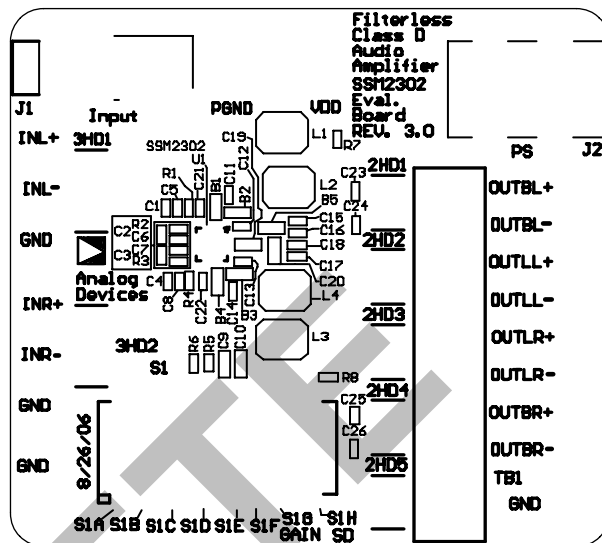
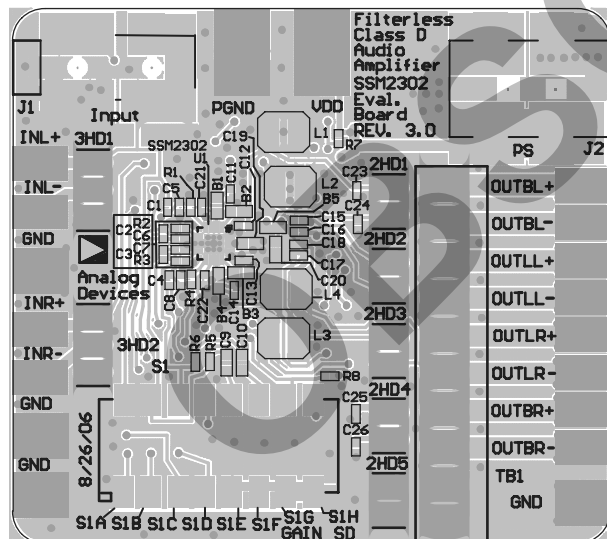
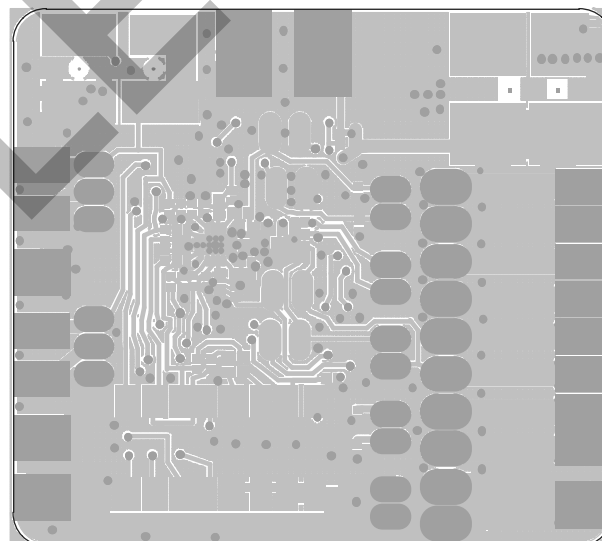
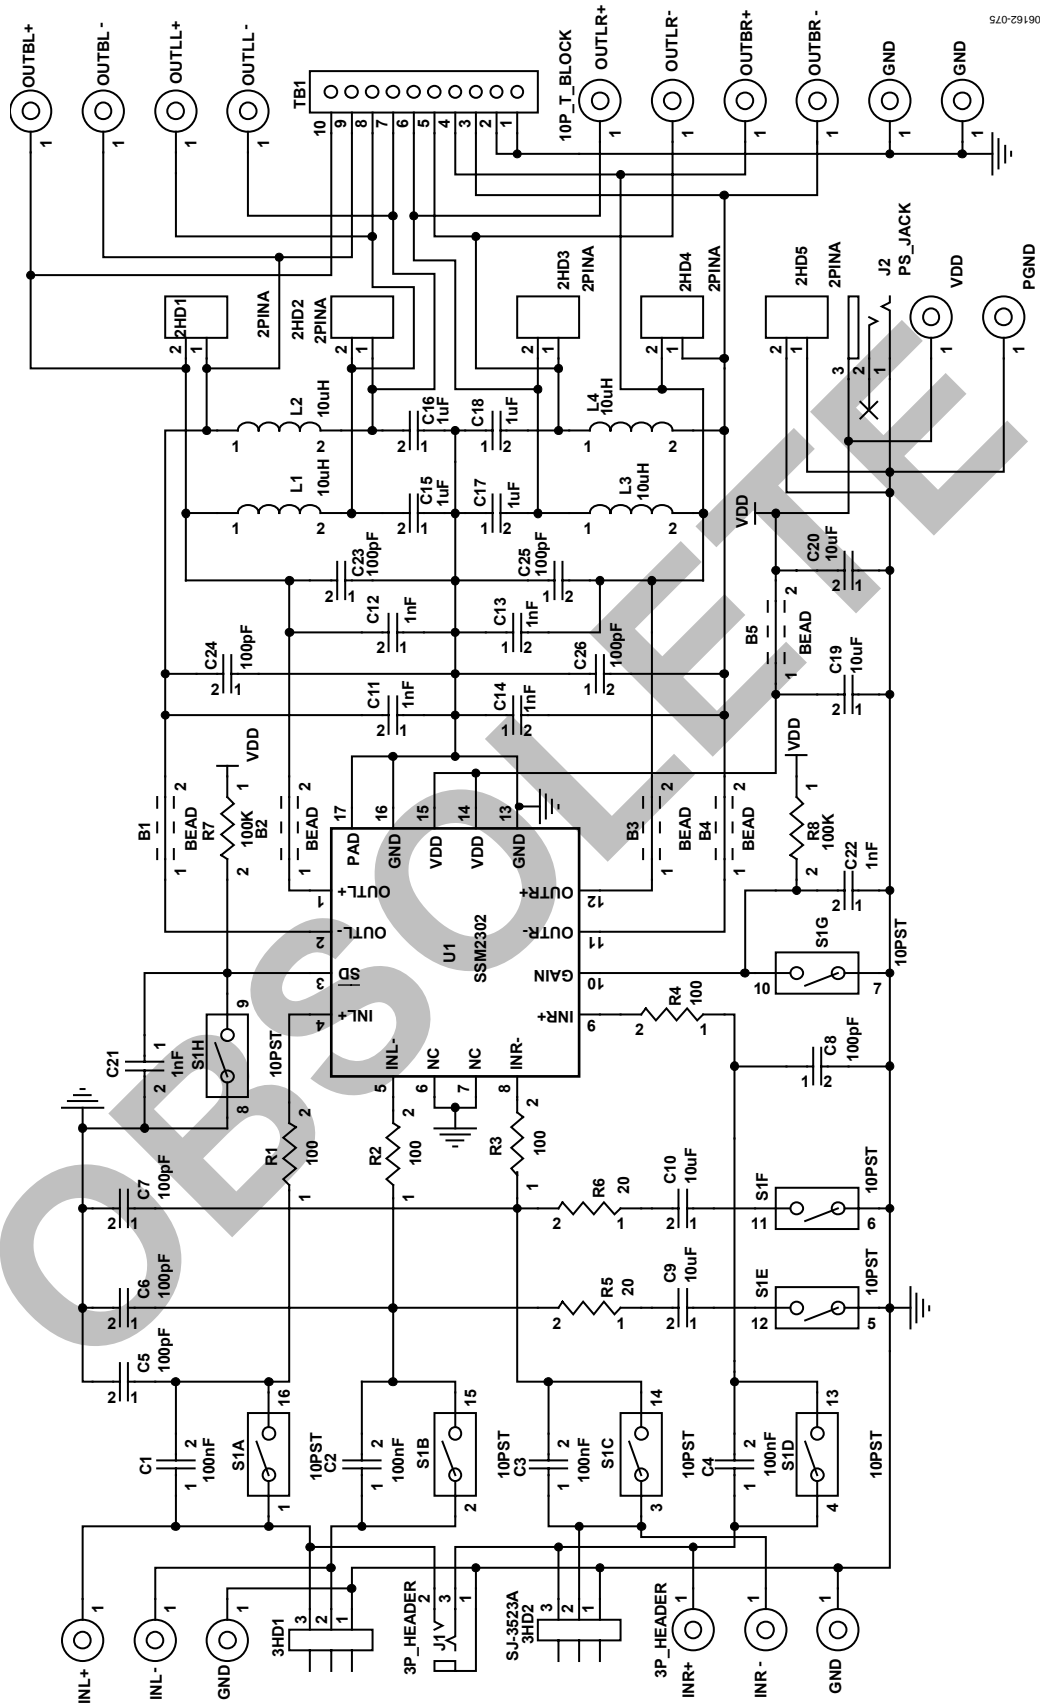

Figure 42. Top Silkscreen
Figure 41. Top Silkscreen Layer with Other Top Layers
Figure 43. Top Layers Without Top Screen Layer
Figure 46. Schematic of SSM2304 Evaluation Board Rev. 3.0
The silkscreen layer of the evaluation board is shown in Figure 41 with other top layers, including top copper, top solder mask, and multilayer (vias).
Figure 42 shows the top silkscreen layer only. There is no component in the bottom side; therefore, there is no bottom silkscreen layer.
Figure 43 shows the top layers without the silkscreen layer.
The schematic is shown in Figure 46.
On the upper left corner of the schematic shown in Figure 46, there is an audio stereo jack connector (3.5 mm), J1. This jack is compatible with standard stereo audio signals. It uses a conventional audio stereo signal connector/cable to obtain audio signals from common appliances, such as DVD players, personal computers, TVs, and so on. Because this connector only provides single-ended audio signals, turn Switches S1E and S1F to the upper positions when this input connector is utilized to ac short circuit the negative input ports to ground (see the schematic in Figure 46).
All the output ports are located on the right side of the board and marked with the corresponding names. Please see the legend on the board in Figure 42 and the schematic in Figure 46.
1. Place nine vias onto the thermal pad of the amplifier. The outer diameter of the vias should be 0.5 mm and the inner diameter should be 0.33 mm. Use a PCB area of at least 2 cm × 2 cm or an equivalent area on the back side of the PCB layer as the heat sink (see Figure 41, Figure 42, and Figure 43). If there are internal layers available within the PCB, allocate an area as large as possible for the ground plane(s) and connect these vias to the plane(s).
8. Decouple the input port nodes and the digital pins, Pins 3, 4, 5, 8, 9, and 10, with small capacitors, such as 100 pF. These capacitors are not necessary, but can lower the EMI from these pins. The ground terminals of these capacitors should be connected to the chip ground as close as possible (see Figure 41, Figure 42, and Figure 43).
10. Connect the ground pins, Pins 6, 7, 13, and 16, to the thermal pad and place grounding vias as shown in Figure 41, Figure 42, and Figure 43.